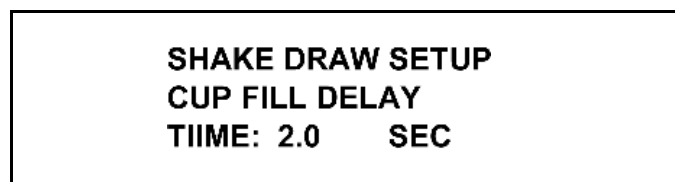

Figure 2-105
5. The last screen in the Shake Draw Setup is the CUP FILL DELAY. The setting range is 0.0 sec. to 3.0 sec., adjustable in increments of 0.5 seconds. The recommended setting is 2.0 seconds. The CUP FILL DELAY is adjusted to prevent the fill sensor from prematurely ending the draw due to product splashing in the cup or by detecting a temperature change when product begins to dispense. (See Figure 2-105.)